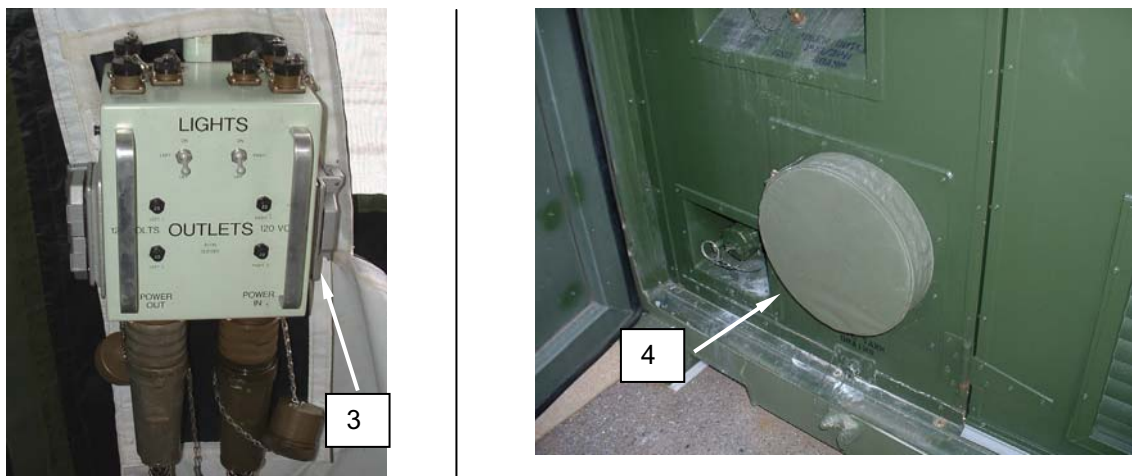

Figure 3. ASH Connections.
7. Connect the ASH to a 120 VAC connection (**Figure 3, Item 3**) on the TEMPER electrical distribution box. Ensure the ASH return is drawn from the false wall connection (**Figure 3, Item 4**) on the CBL, and the ASH air discharges to the TEMPER.